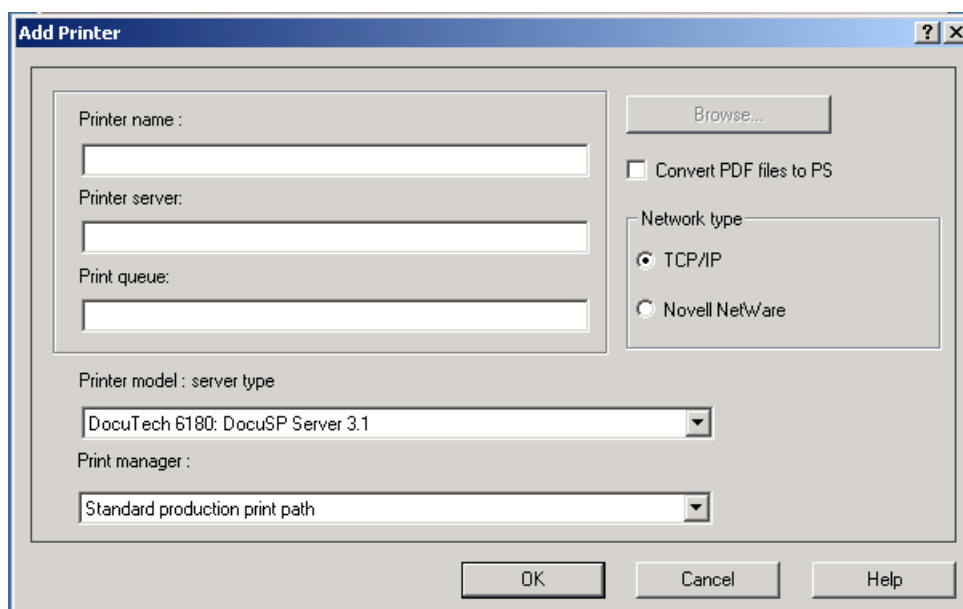

Figure 9-1. Add Printer dialog box
3. Select [Add Printer]. The Add Printer dialog box opens. See Figure 9-1.